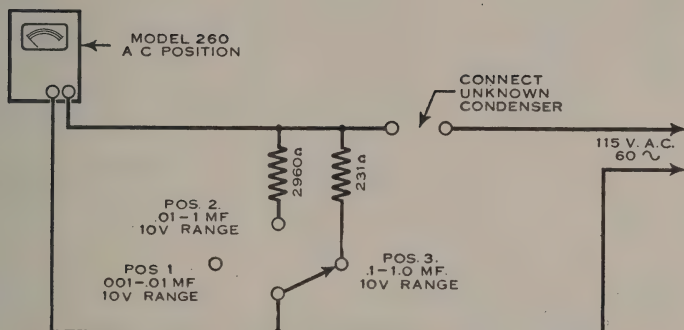

Figure 11 Model 260 Used as Condenser Tester
b. A rough test of the comparative capacity of PAPER condensers can be made with the Model 260 by connecting it as shown in Figure 11. The larger the unknown condenser being tested, the smaller its reactance and therefore the higher the reading will be on the A.C. voltmeter.